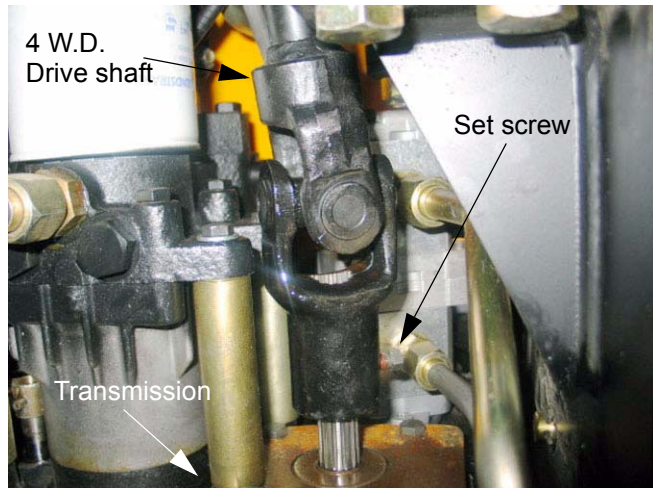

Figure 3.1
- 3.1. Loosen the set screw that secures the back end of the 4 W.D. drive shaft to the splined output shaft on the front of the transmission. See Figure 3.1.